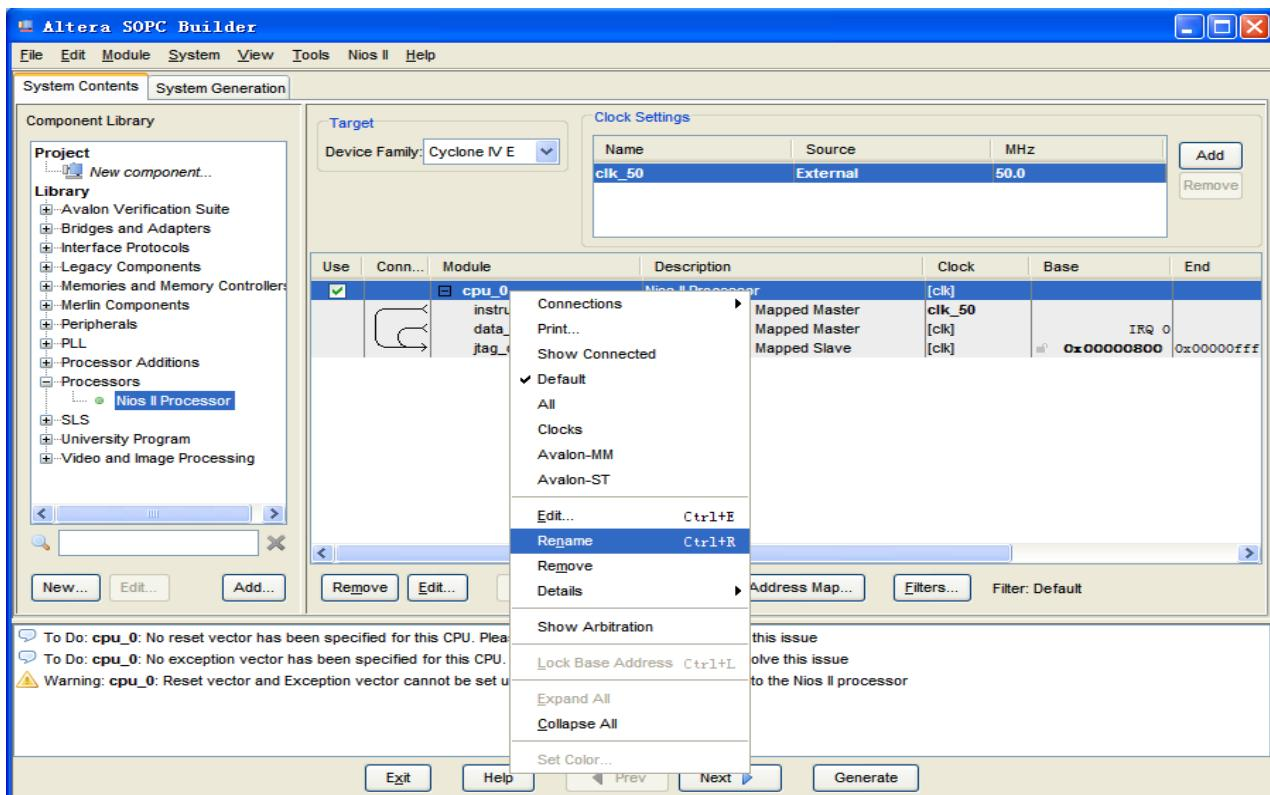
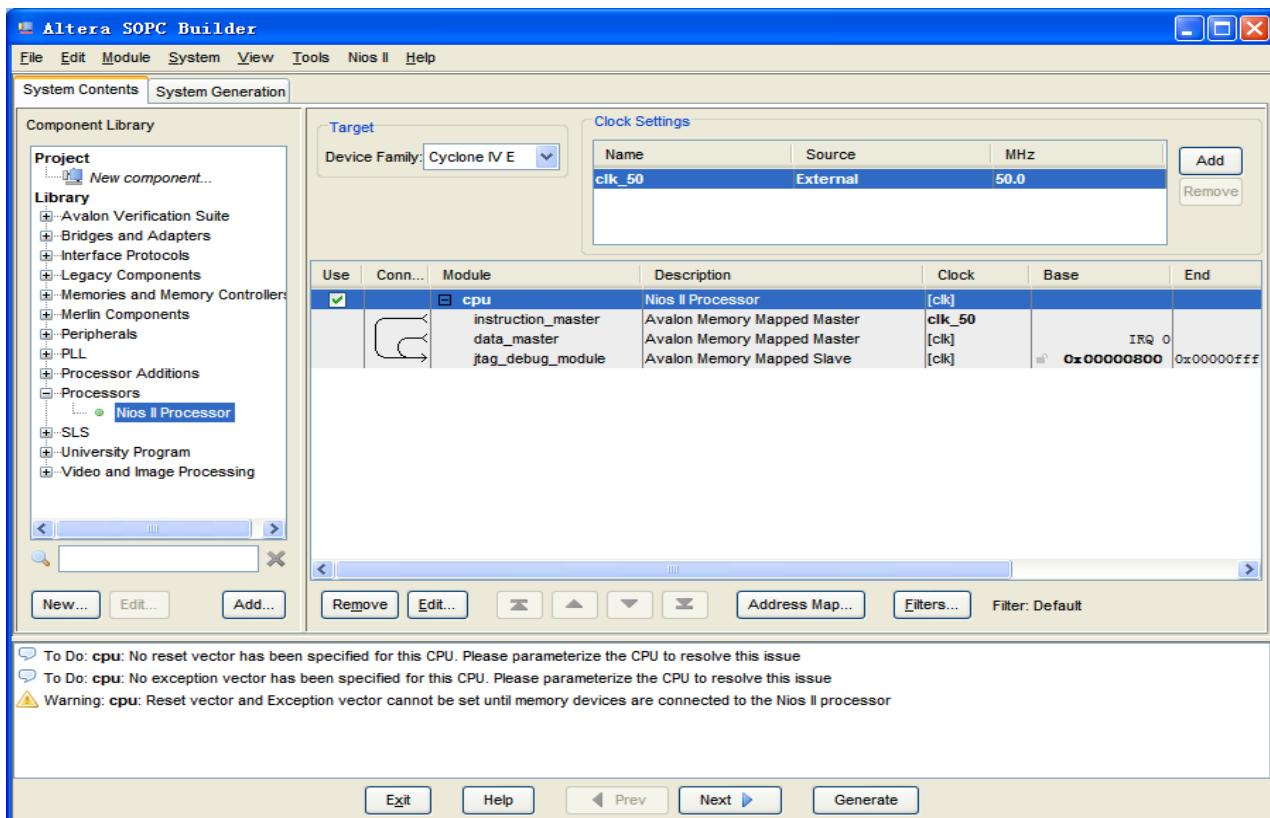

Figure 7-17 Rename the CPU (1)
Figure 7-18 Rename the CPU (2)
10. Select the **cpu_0** component and right-click then select rename, after this, you can update **cpu_0** to **cpu**, as shown in **Figure 7-17** and **Figure 7-18**.